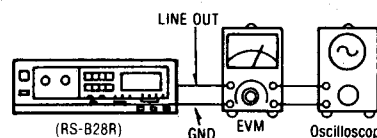

Fig. 2
- Make connections as shown in fig. 2.
- Test equipment connection is shown in fig. 2.
1. Test equipment connection is shown in fig. 2.